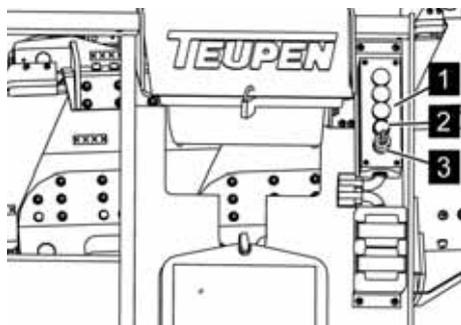

Fig. 47: Toolbar
- To switch off the diesel engine, turn the key switch (Fig. 47) on the bottom control to  and hold it until the diesel engine stops.